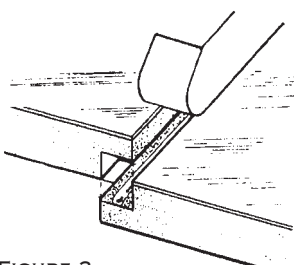

FIGURE 3
2. Fit next THERMAX™ board firmly into the sealant-lined shi lap edge and fasten. (Figure 3)